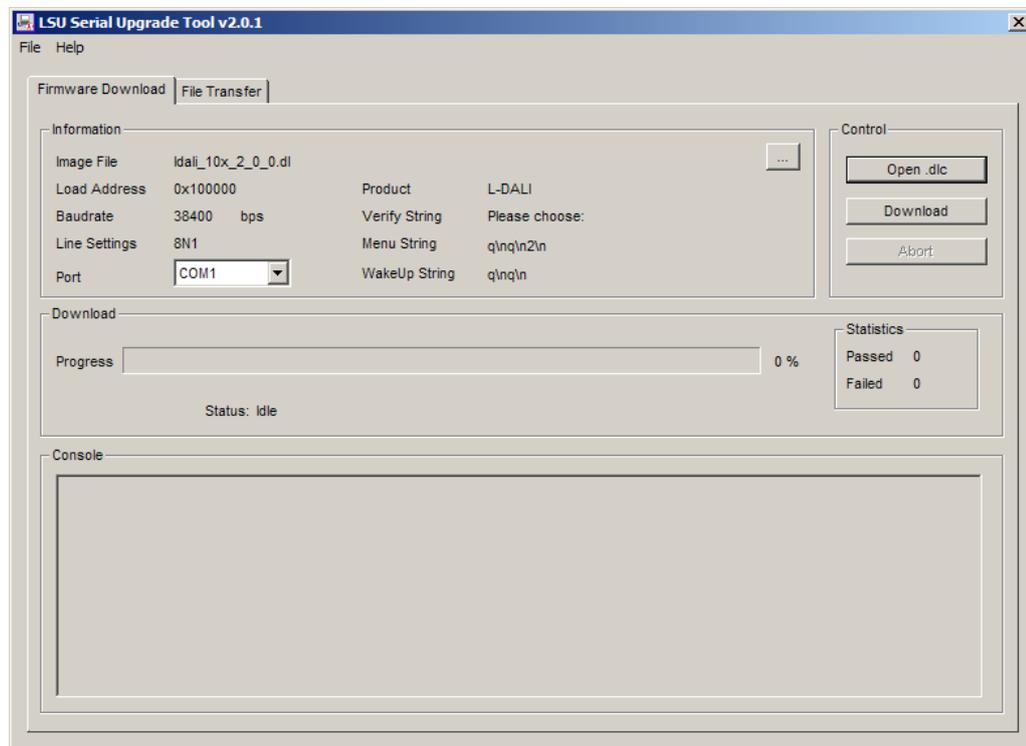

Figure 168: LSU Serial Upgrade Tool in Idle Mode
1. Double click on the *.dlc file that comes with the new firmware package. This should start the LSU Tool and load the firmware image referenced in the dlc file. Please note that the dlc file and the dl file must be stored in the same folder. The start window of the LSU tool is shown in Figure 168.